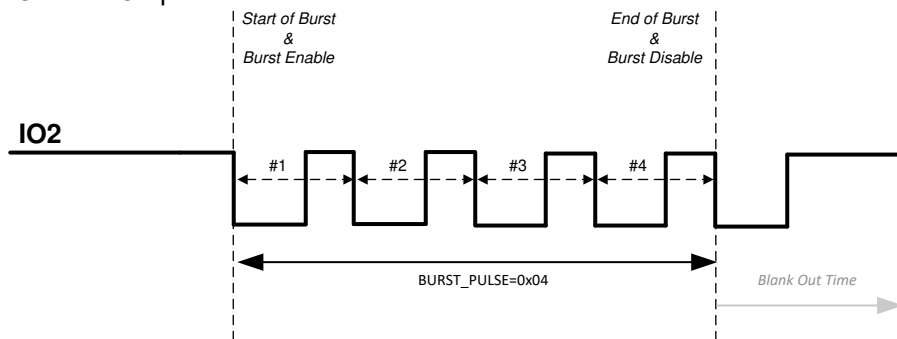

图 7-4. IO_MODE 3 Description
- **IO_MODE = 3:** In this mode, burst enable and start of burst are both triggered by the falling edge of IO2. TI recommends that IO2 pin is kept pulled up to VDD for this mode. The device then expects a clock at IO2 pin to generate pulses on the OUTA/OUTB pins (see 图 7-4). The number of pulses are counted by counting falling edge to next falling edge transitions on IO2 once the start of burst is triggered. End of burst sequence is signaled when the number of pulses defined in **BURST_PULSE** are sent. After end of burst, a blank-out timer interval defined by the **DRV_PLS_FLT_DT** register is started to prevent triggering of a new start of burst in the event if the IO2 pin is still toggling. After the start of burst, the state of OUTA and OUTB pins are determined by IO1 and IO2 pins.